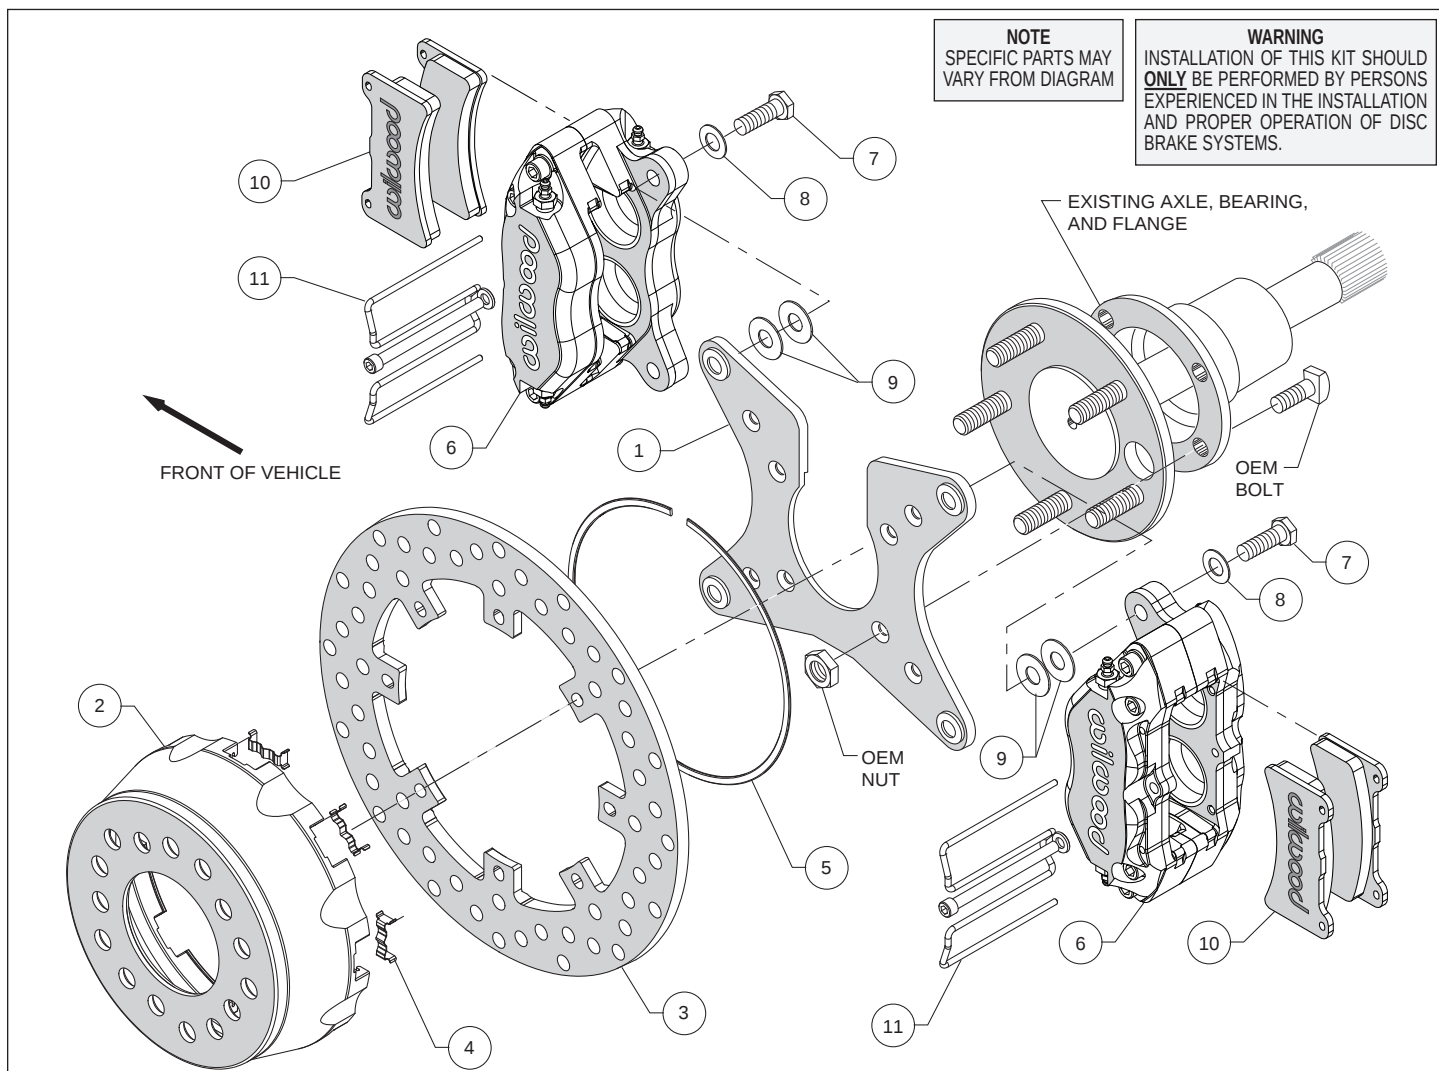
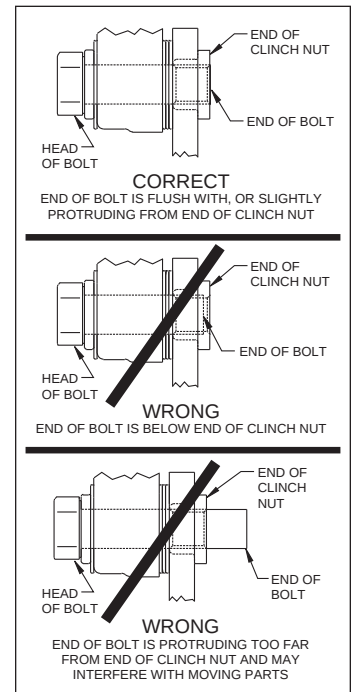

Figure 1. Typical Installation Configuration
Figure 5. Clinch Nut Engagement Diagram
Assembly Instructions (numbers in parenthesis refer to the parts list and Figure 1 on the preceding pages): **CAUTION:** All mounting bolts must fully engage clinch nuts. Be sure to check that all bolts are either flush or protruding through flanged side of clinch nut after shimming, Figure 5.
- Install the caliper mounting bracket (1), with the slot for the axle pointing upward, to the housing flange using the OEM bolts and nuts, as shown in Figure 1 and Photo 1. Ensure that the caliper mounting ears on the bracket are oriented fore and aft on the car, with the heads of the clinch nuts facing outboard, Photo 1. Apply red *Loctite*® 271 to the OEM bolt threads and torque to OEM specifications.
- Insert the dynamic mount wear clips (4) into the slots in the hat (2) making sure the tabs snap in place, Photo 2. Orient the rotor (3) as shown in Figure 1 and Photo 3, with the flush mount tab side facing the hat. Attach the rotor to the hat using snap ring (5) by pushing down on the rotor and installing the ring into the groove in the hat, as shown in Photo 4. Ensure that the ring is fully engaged in the groove.
- Align the correct hole pattern in the hat (2) with the axle stud pattern and slide the hat/rotor assembly onto the axle hub. **NOTE:** The hat must fit flush against the axle flange or excessive rotor run out may result. Install three lug nuts (finger tight) to keep the hat/rotor in place while continuing with the installation. **NOTE:** The hats included in this brake kit are drilled for .68" diameter wheel studs.
- NOTE:** Please reference the caution statement at the beginning of the assembly instructions. Mount one caliper (6) onto the mounting bracket (1) using bolts (7) and washers (8), as shown in Figure 1. Initially place two .035" thick shims (9) on each bolt between the caliper and the bracket, Photo 5. Temporarily tighten the mounting bolts and view the rotor (3) through the top opening of the caliper. The rotor should be centered in the caliper, Photo 6. If not, adjust the caliper by adding or subtracting shims between the bracket and the caliper. Always use the same amount of shims on each of the two mounting bolts. **NOTE:** The end of each bolt must be flush with or slightly protruding from the head of the clinch nut. If necessary, place spare shims between washer and caliper mounting ear to achieve the proper clinch nut engagement, as shown in Figure 5. Once the caliper alignment and clinch nut engagement are correct, remove the bolts one at